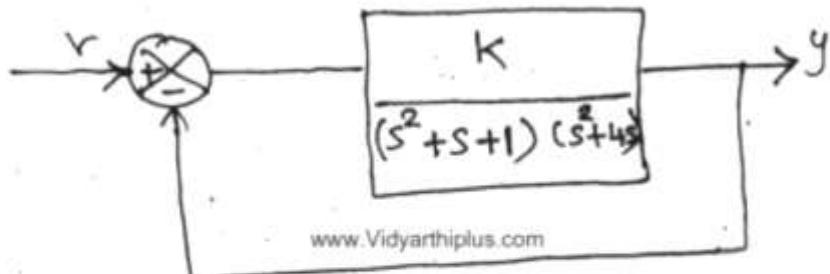

Fig. 2
14. (a) Consider the closed - loop system shown in Fig. 2, determine the range of K for which the system is stable. (16)